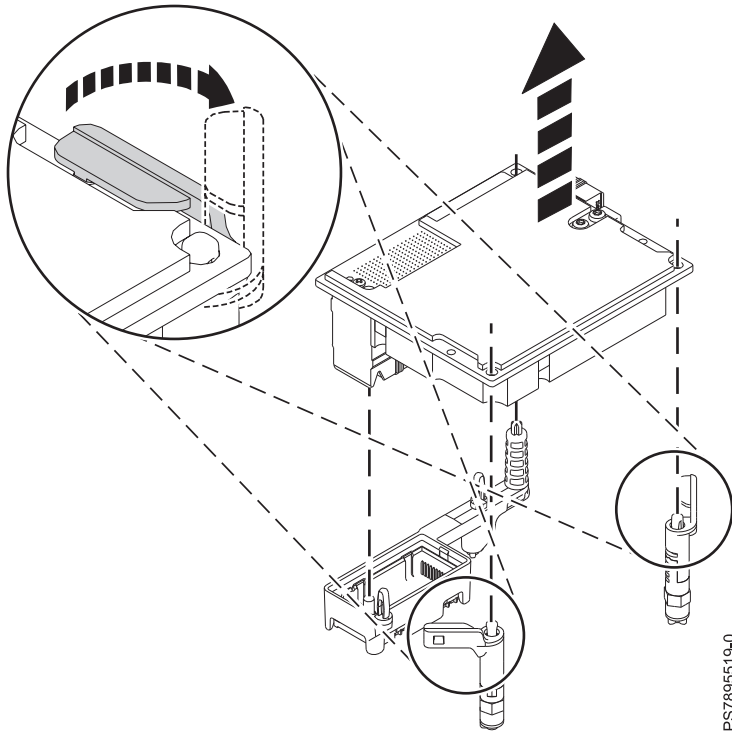

Figure 29. Removing a network adapter from its connector
5. Pull the slot’s two blue release tabs open, as indicated in Figure 29.